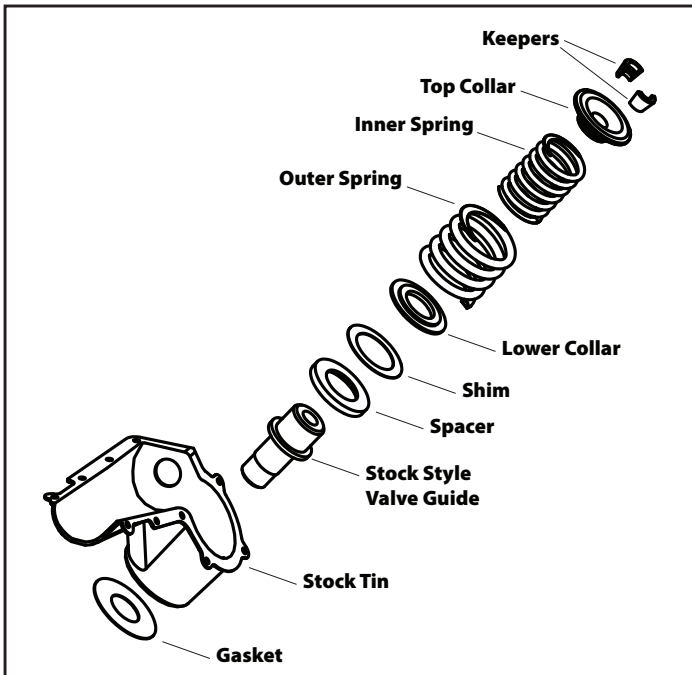

Figure 4
- a. Install gasket, tins, and valve guide as shown in Figure 4. Coat both sides of the gasket with Permatex® Right Stuff sealant before installation. The valve guide holds the tins in place against the cylinder head when stock tins are used.
- i. Temporarily install valve, bottom collar spacer, bottom collar, top collar and top collar keepers. Do not install springs. See Figure 4. Pull the top collar tightly against keepers to seat them in top collar.
- c. Once spring height is confirmed, reassemble with springs as shown in Figure 4.